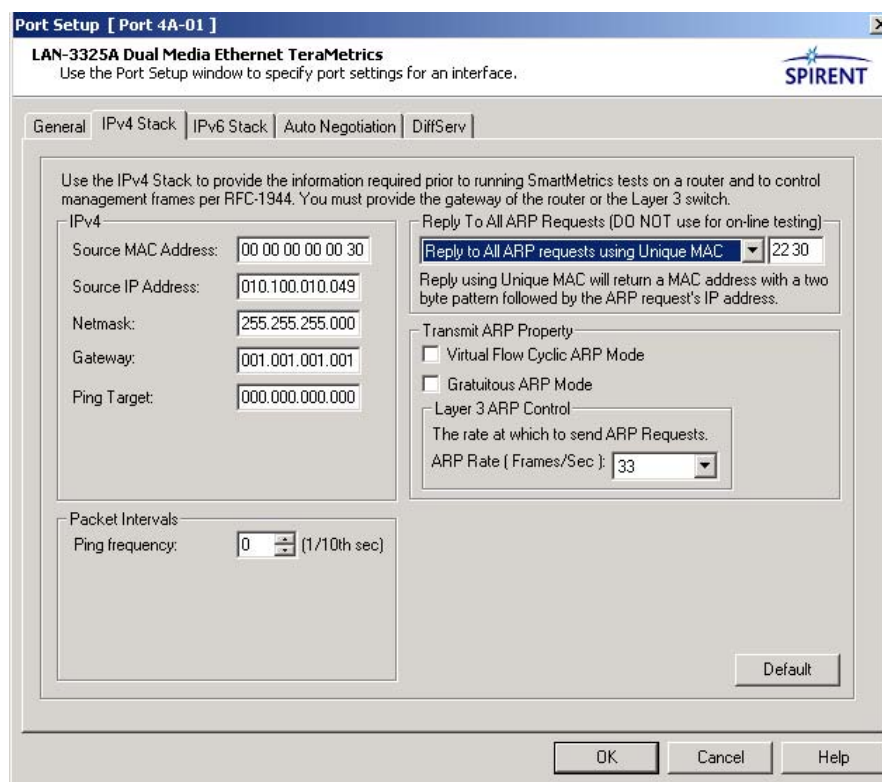

Figure 5-30. ARP Request using Unique MAC
- 1 Access the **Port Setup** window and select the **IPv4 Stack** tab. Locate the right window pane and select (using pull-down arrow) the **Reply to All ARP requests using Unique MAC** message. (See *Figure 5-30*.)
The pane located directly below the *Reply to All ARP Requests (DO NOT use for online testing)* pane is labeled *Transmit ARP Property*. Located within this pane is the checkbox that is used to enable virtual flow cyclic ARPs. (See Figure 5-30 on page 188. Table 5-25 provides a quick overview of how to set up virtual flow cyclic ARPs.)